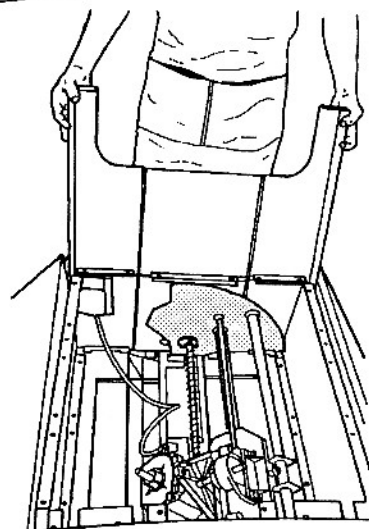

Fig. 4
8. Place the front end panel (20) (the one without the "Sawsmith" label) on the front of the cabinet (where the controls are), as shown in in Fig. 4.